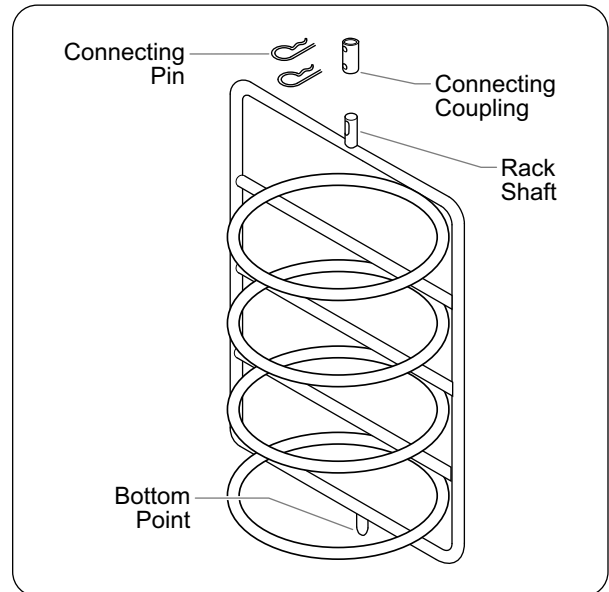

Figure 10. Removing Motorized Display Racks
2. Remove the two (2) connecting pins from the connecting coupling located at the top of the rack inside the cabinet (see Figure 10.).